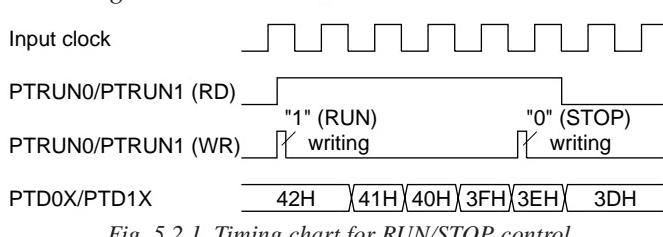

Fig. 5.2.1 Timing chart for RUN/STOP control
- (1) When reading counter data, be sure to read the low-order 4 bits (PTD00–PTD03, PTD10–PTD13) first. Furthermore, the high-order 4 bits (PTD04–PTD07, PTD14–PTD17) should be read within 0.73 msec (when fOSC1 is 32.768 kHz) of reading the low-order 4 bits (PTD00–PTD03, PTD10–PTD13).
- (2) The programmable timer actually enters RUN/STOP status in synchronization with the falling edge of the input clock after writing to the PTRUN0/PTRUN1 register. Consequently, when "0" is written to the PTRUN0/PTRUN1 register, the timer enters STOP status at the point where the counter is decremented (-1). The PTRUN0/PTRUN1 register maintains "1" for reading until the timer actually stops.
- Figure 5.2.1 shows the timing chart for the RUN/STOP control.